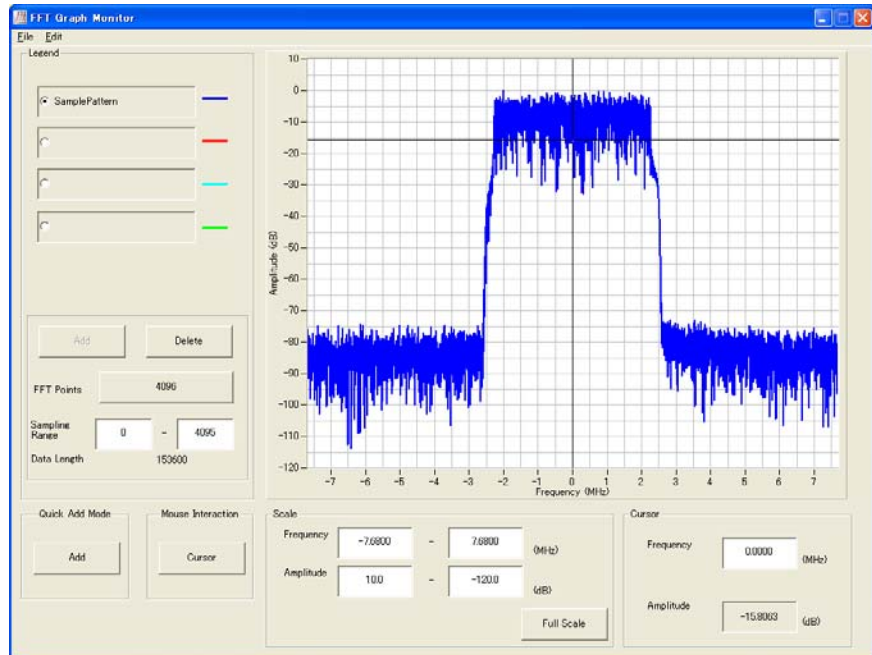

Figure 3.6-3 FFT Graph Monitor Screen
2. Select **FFT** from the **Simulation** menu or click the  tool button. The FFT Graph Monitor screen shown in Figure 3.6-3 is displayed with the trace of the generated waveform pattern.